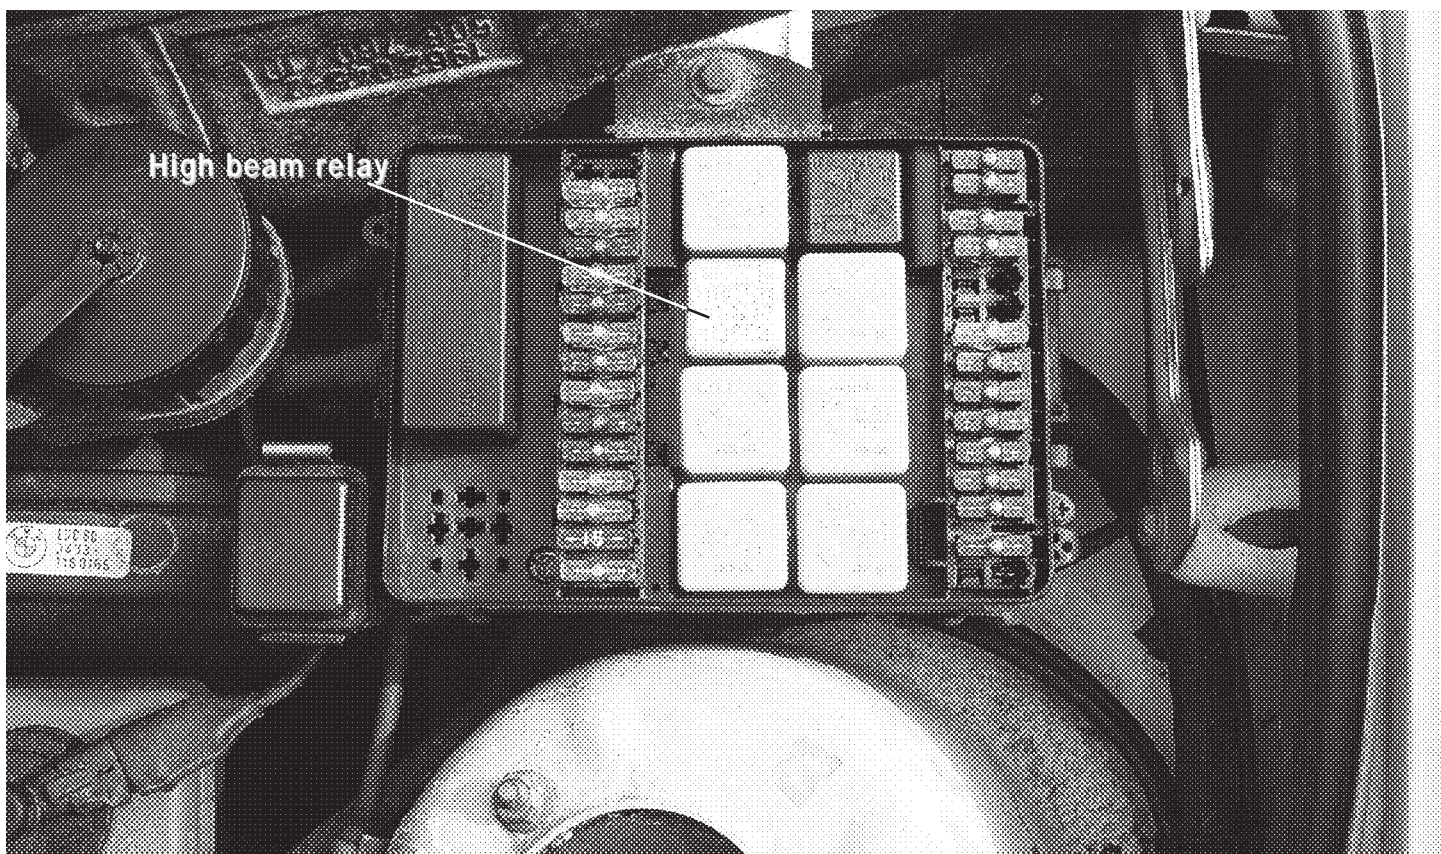

Figure 1
9. Replace the original high beam relay, (see Figure 1), with the supplied 5 pin relay.